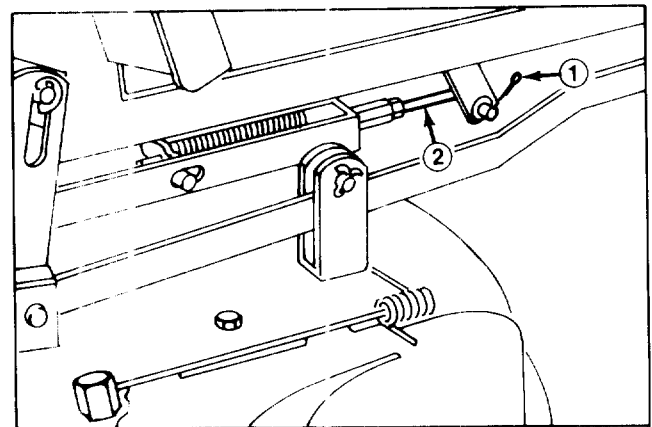

Figure 23
3. Remove cotter pin from Adjustment Rod and pull from Pivot Tube Arm (Fig. 23).
4. Replace belt guides for transmission pulley and retighten belt guides on engine pulley. Install belt retainer on idler pulley positioned toward rear as shown (Fig. 23 & 24).